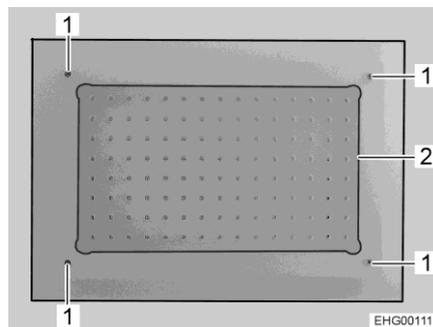

Fig. 299 Ceiling lamp
- Unscrew 4 screws (Fig. 299,1).
- Remove glass plate (Fig. 299,2) with firmly mounted LEDs.
- Position new glass plate including LEDs and screw in the 4 screws (Fig. 299,1).